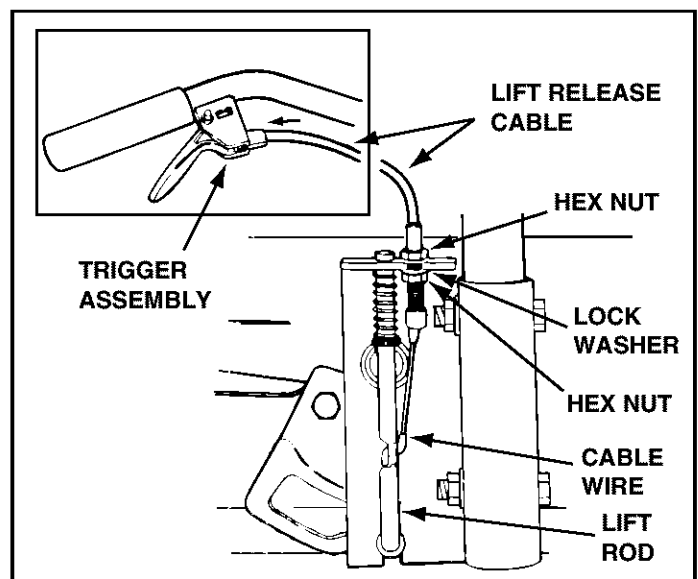

FIGURE 10
- Push the lift handle down into the locked position. Insert the end of the cable wire into the hole in the lift rod. Place the threaded fitting into the slot in the lift bracket, with one hex nut above and one hex nut and the lock washer below the slot. Tighten the nuts, adjusting them to eliminate slack in the cable wire. See figure 10. Refer also to the Service and Adjustments section on page 16 in this manual.